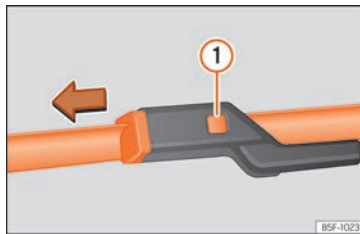

**Fig. 51** Changing the windscreen wiper blades
- Press and hold release button » Fig. 51 ❶ and pull gently on the wiper blade in the direction of the arrow.